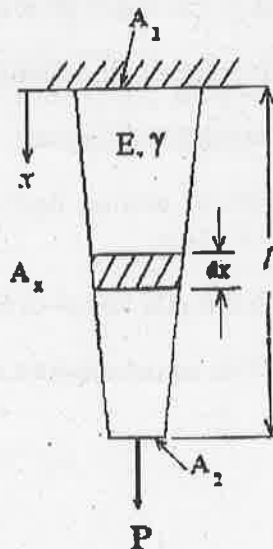

Fig.11(b)
- (b) Derive the governing equation for a tapered rod fixed at one end and subjected to its own self weight and a force P at the other end as shown in Fig. 11 (b). Let the length of the bar be l and let the cross section vary linearly from A_1 at the top fixed end to A_2 at the free end. E and γ represent the Young's modulus and specific weight of the material of the bar. Convert this equation into its weak form and hence determine the matrices for solving using the Ritz technique.